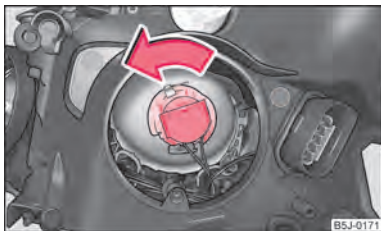

Fig. 154 Removing the light bulb for the low beam light
- Turn the connector with the light bulb up to the stop towards the left ⇒ fig. 154 and remove.